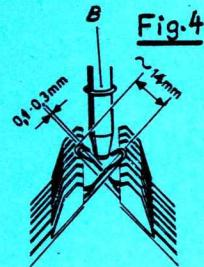

Fig. 4
- Set locks on GX. On front and back bed bring 10 needles up into working position, at right and left, as shown in Fig. 4. Open needle latches.
- When moving the lock across the needles, the lower edge of the feeding eyelet (B) should be as close to the needle-cross as possible (about 0,1 - 0,3 mm) without touching the needles (Fig. 4).